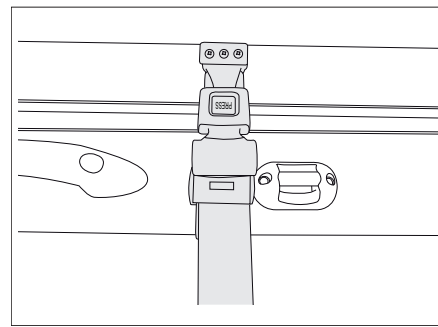

Fig. 154 Manual pull-down bed retaining belt
- Secure the pull-down bed to the roof by means of the retaining belt (Fig. 154).